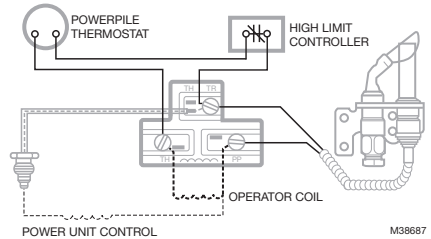

Fig. 8. Typical wiring for millivoltage system.
2. After Powerpile generator is installed, route generator lead to VS824 operator and connect to terminals labeled "PP." See Fig. 8. Make certain jumper lead from operator to safety shutoff power unit is connected and tightened 1/4 turn beyond finger tight.